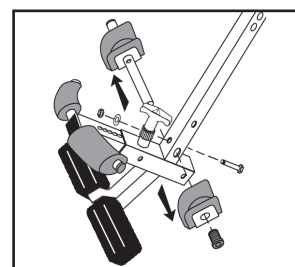

Figure 1
- Remove a black plug and one rear foam ankle clamp with backing from the same side of the rear bar (Figure 1).